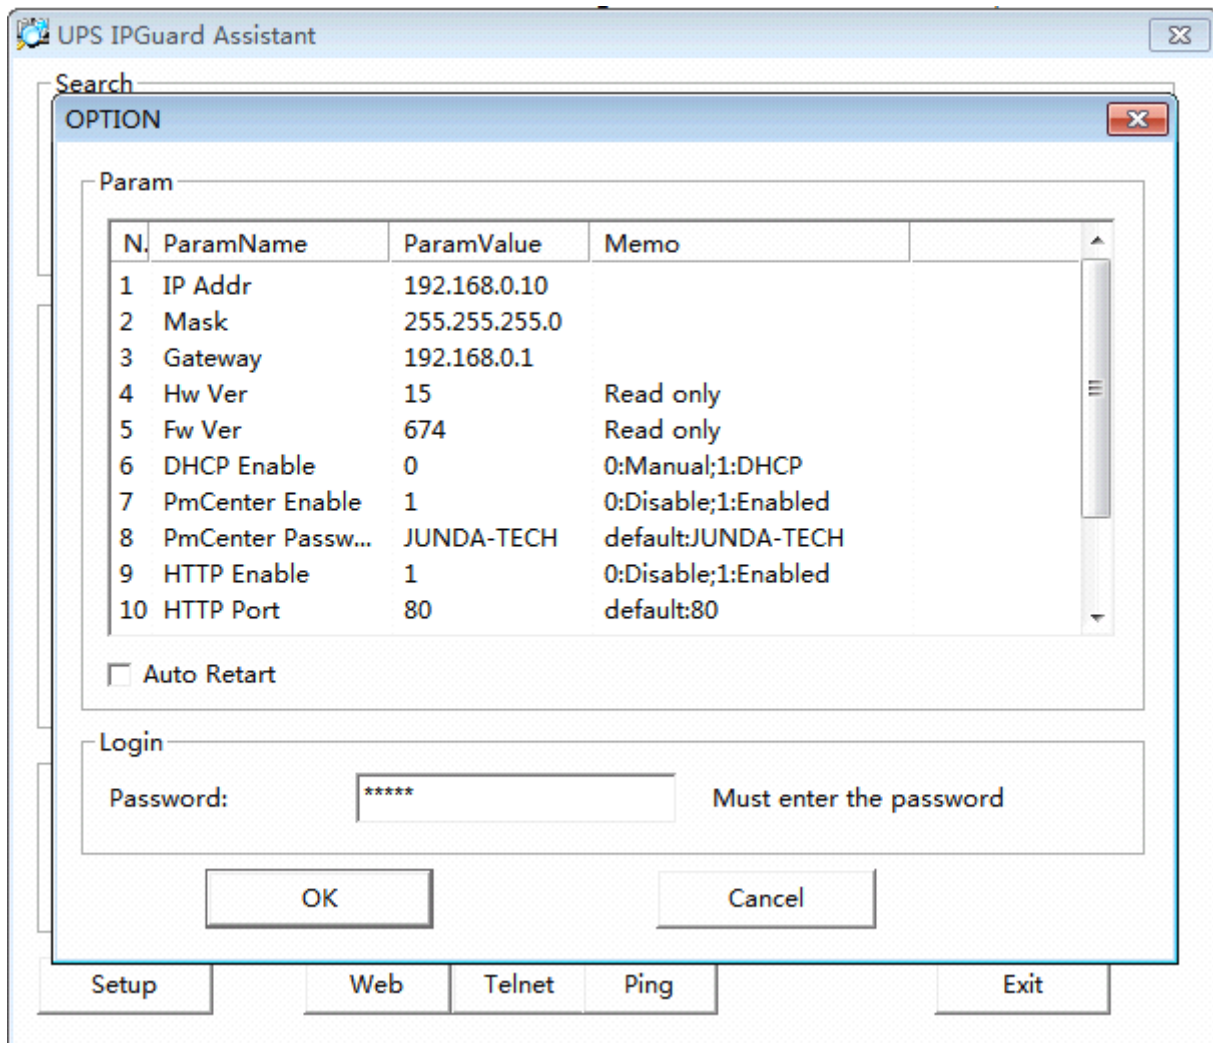

Figure B.2.5
- Searched the Device list will list all the discovered devices, select the entry you want to set, double-click to edit, shown in Figure B.2.5